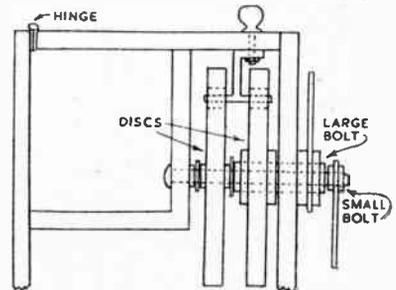

Fig. 5—Section showing mechanism
to be released in one particular place only. It will be seen from Fig. 5 that one disc requires a centre hole to take the larger spindle, and one a hole for the smaller.
Before assembling the cigarette compartment inside the case, fit on the spindles in the manner shown at Fig. 5. A hole is drilled in the front of the compartment, through which the thin bolt goes. The order for the rest is then: small nut, washer, another small nut, one disc, small nut, washer, and then the larger piece of spindle.
Fig. 7 shows how the catch is made. It is held to the lid by the same bolt that holds on a little knob, and it engages in the slits cut out of the discs, as shown at Fig. 5.
A piece of plywood,  $\frac{1}{8}$  in. thick is cut as dimensioned in Fig. 5. When the main frame (B) is glued to it, there will be a  $\frac{1}{8}$  in. rebate all round, as clearly seen in Fig. 4. In Fig. 2, a corner of the frame (B) has been cut away to show the construction.